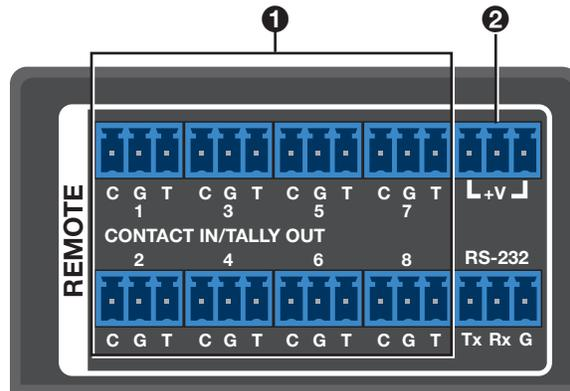

Figure 8. CONTACT IN/TALLY OUT Ports on SW6 and SW8 Models
1. Connect contact input and tally output devices to one or more of the 3-pole CONTACT IN/TALLY OUT connectors (see figure 8, ①) as desired: